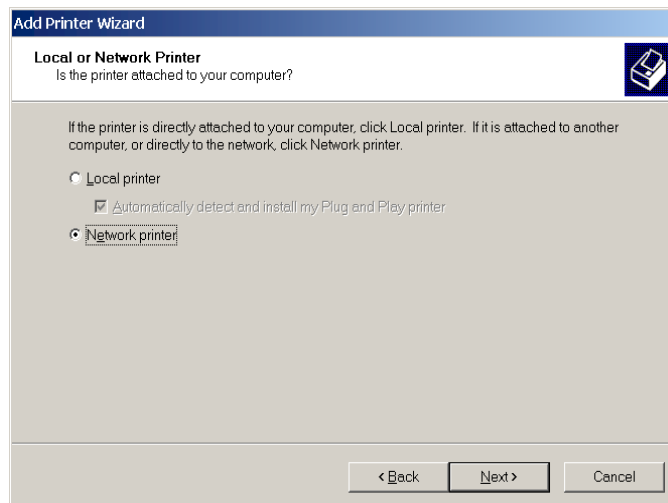

Figure 2, Local or Network Printer
2. The second page of the “**ADD PRINTER WIZARD**” will be displayed, as shown in Figure 2. Click on “**LOCAL PRINTER**”. Unclick the “**Automatically detect and install my Plug and Play printer**”. Click on <**NEXT**> to continue.